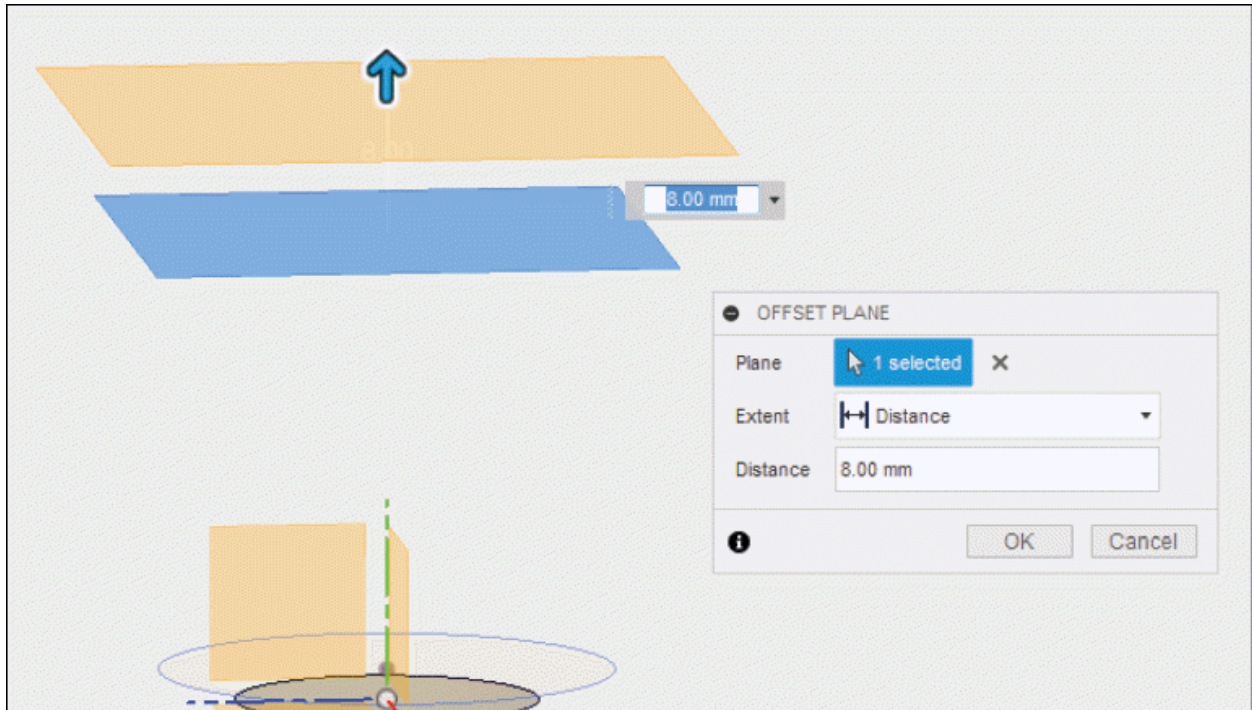

Figure-80. Creating fourth offset plane for jug
- Click in the **Distance** edit box and specify the value as **8**; refer to Figure-80. You can also set the distance by moving the drag handle.